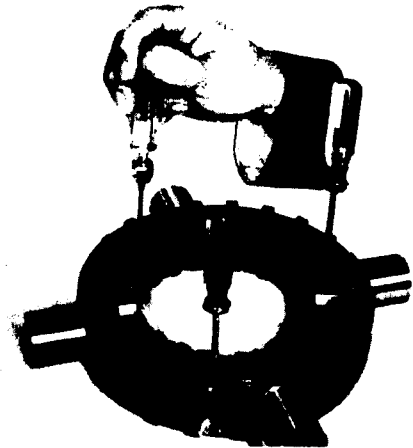

FIG. 77
- If necessary to remove center cam from spider, use three small screwdrivers or tapered wedges to spread snap ring into spider (Fig. 77). Press center cam out through spider.